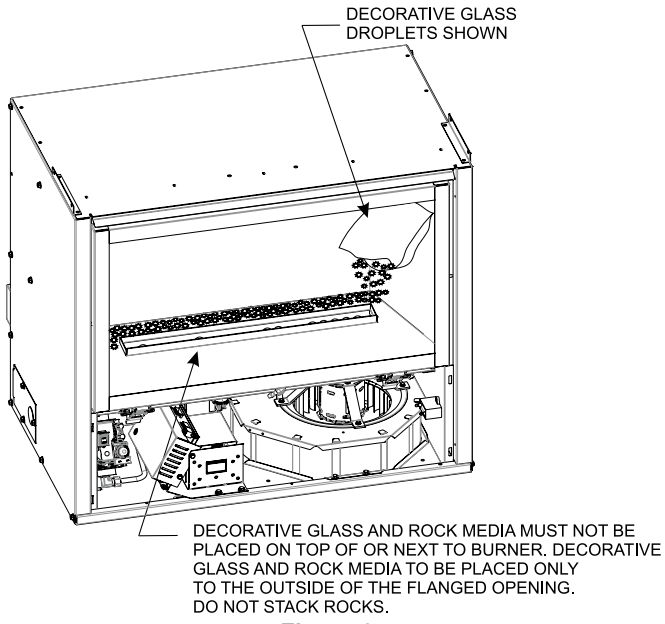

Figure 67
2. To install the Decorative Media, cut off a corner of the plastic bag and proceed to apply the media to the rear of the porcelain liner bottom (area behind the burner). Apply only enough media to the porcelain liner bottom to cover the black metal surface. Do not allow the media to fall around the burner tube. See Figures 67 to 69. Apply the remaining decorative media to the front area of the porcelain liner bottom. Start by placing the media along the front of the porcelain liner bottom, then gradually place the media up the porcelain liner bottom until completely covered. Do not allow the media to fall around the burner tube. See Figures 61 to 69.